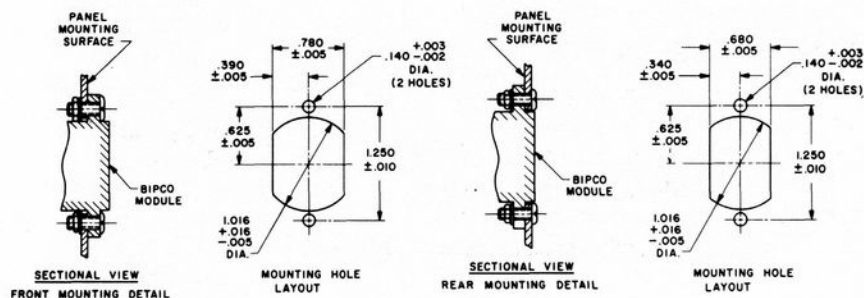

Figure 5. MOUNTING CONFIGURATIONS (Note 5)
Mounting Diagram	Figure 5, Note 5
5. Modules may be mounted either in front of, or behind panel (Figure 5). Front mounting should be employed only when there is no back lighting. Rear mounting may be used whether or not back lighting is present. Following this rule will eliminate light showing through panel.